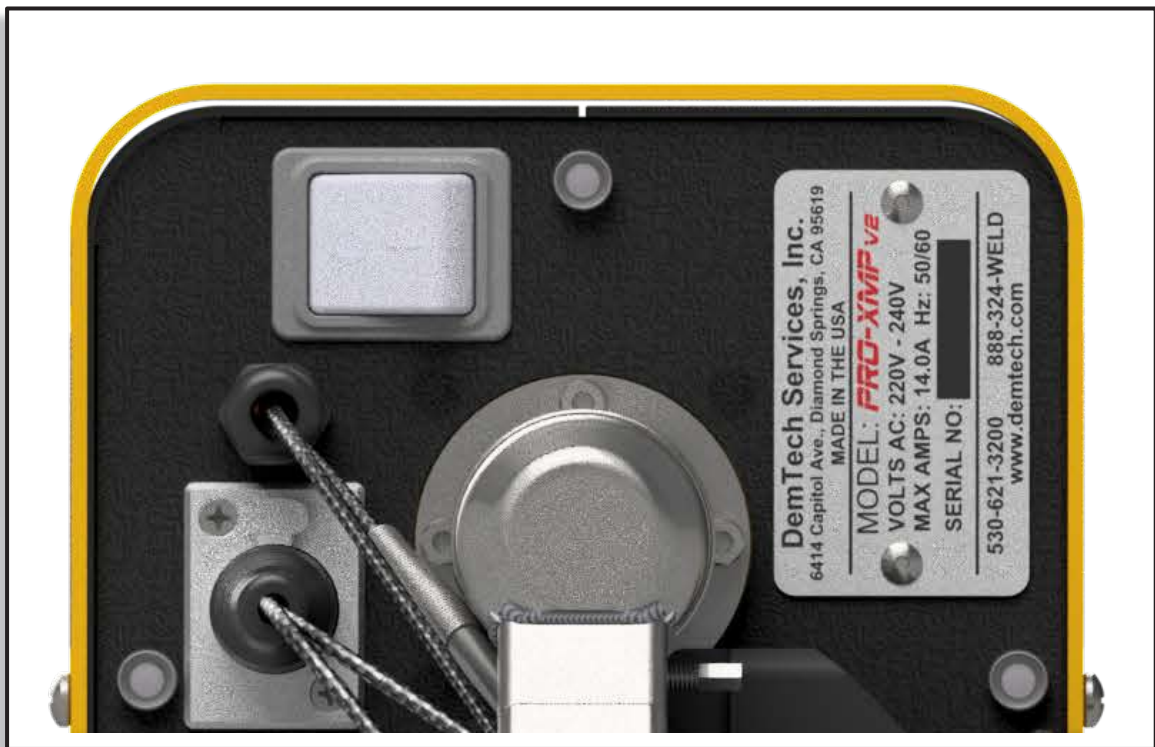

Figure 6.1
- a. The Pro-XMPv2 is supplied with a power cord, which is permanently connected to the bottom side of the controller housing. Depending on the intended country of use, the plug at the other end of the power cord will vary but, in all cases, must be rated for the voltage and current requirements of the welder. It is highly recommended to use a twist-lock or twist-to-connect type plug with a permanent ground connection. Refer to the welder serial plate affixed to the front of the controller housing for the voltage and current requirements of the welder. Install the power cord plug into an appropriate electrical outlet supplying the proper ~(AC) power. In all cases the connection should only be made to a circuit with a maximum 20A breaker rating.
- b. Verify basic operation of the Pro-XMPv2 before proceeding with the remainder of the installation. The welder main power rocker switch is white and is located on the front of the controller housing (see Figure 6.1). Toggle the switch to "I" to turn ON the welder. Toggle the switch to "O" to turn OFF the welder.